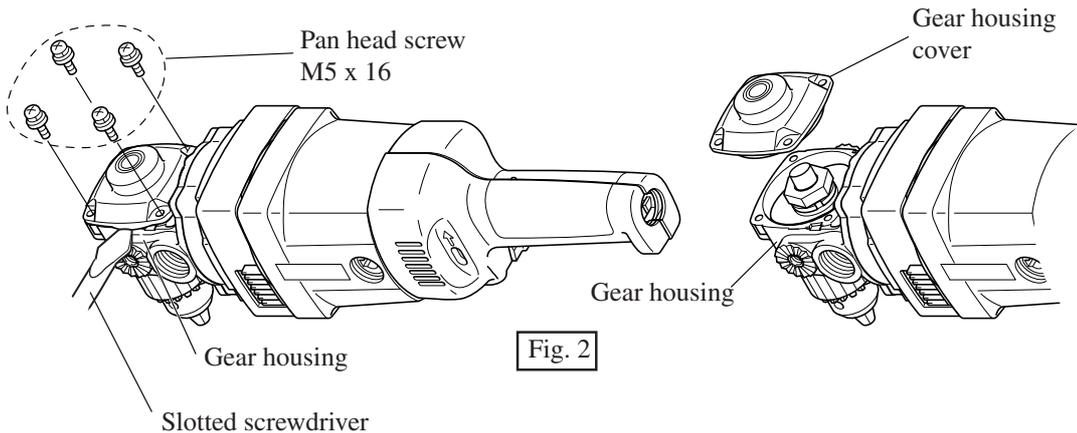

Fig. 2
(2) Take off 4 pcs. of pan head screws M5 x 16, and disassemble gear housing cover by inserting slotted screwdrivers into the slit between gear housing cover and gear housing as illustrated in Fig. 2.